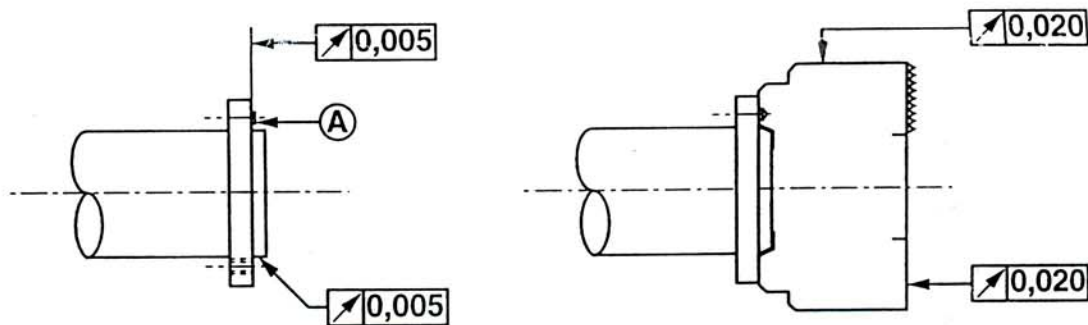

Figure 2
- Ensure that the spindle nose is clean and check its eccentricity and runout (Figure 2).
- Before final tightening of the retaining bolts (b), check the eccentricity and runout of the chuck (Figure 2), re-center if necessary.